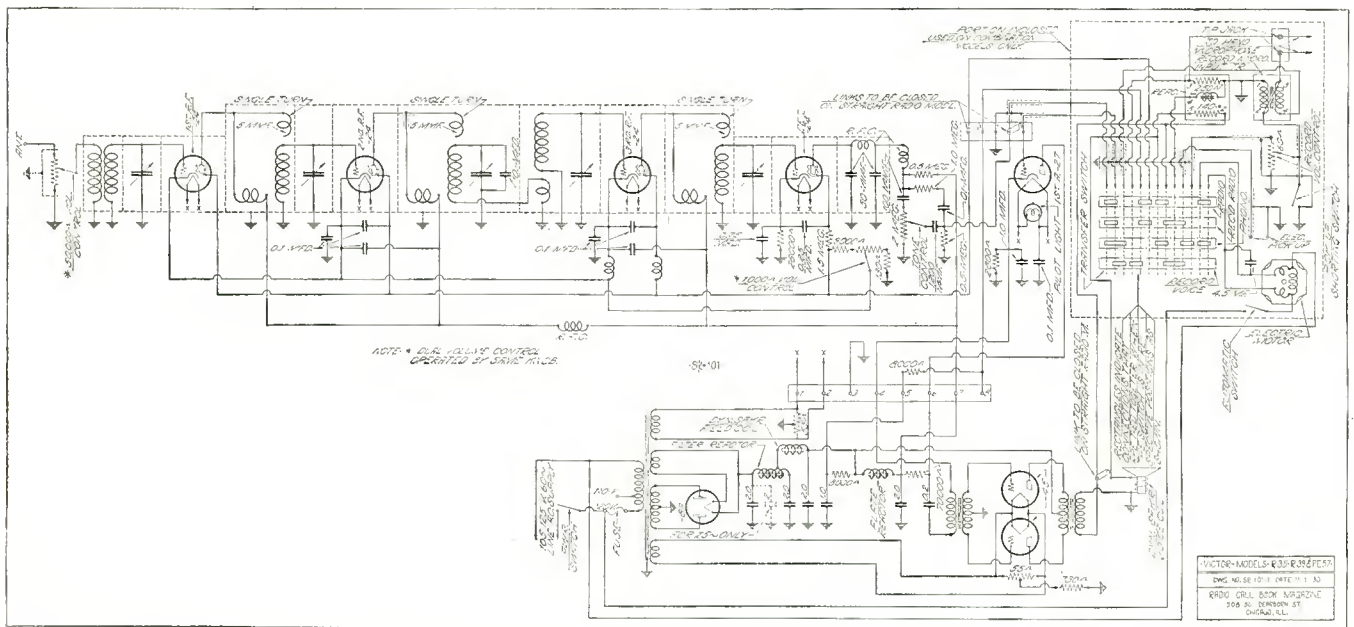

Fig. 2. The schematic diagram of the Victor models described on this page is shown in this illustration together with its power supply
**S**ERVICE data on the model 58, made by the American Bosch Magneto Corp., is shown on this page, the tube table in Figure 1 and the schematic of the receiver and power supply in Figure 2. The model 60 is practically the same as the 58 except it has an automatic volume control, a mute switch and a larger speaker.